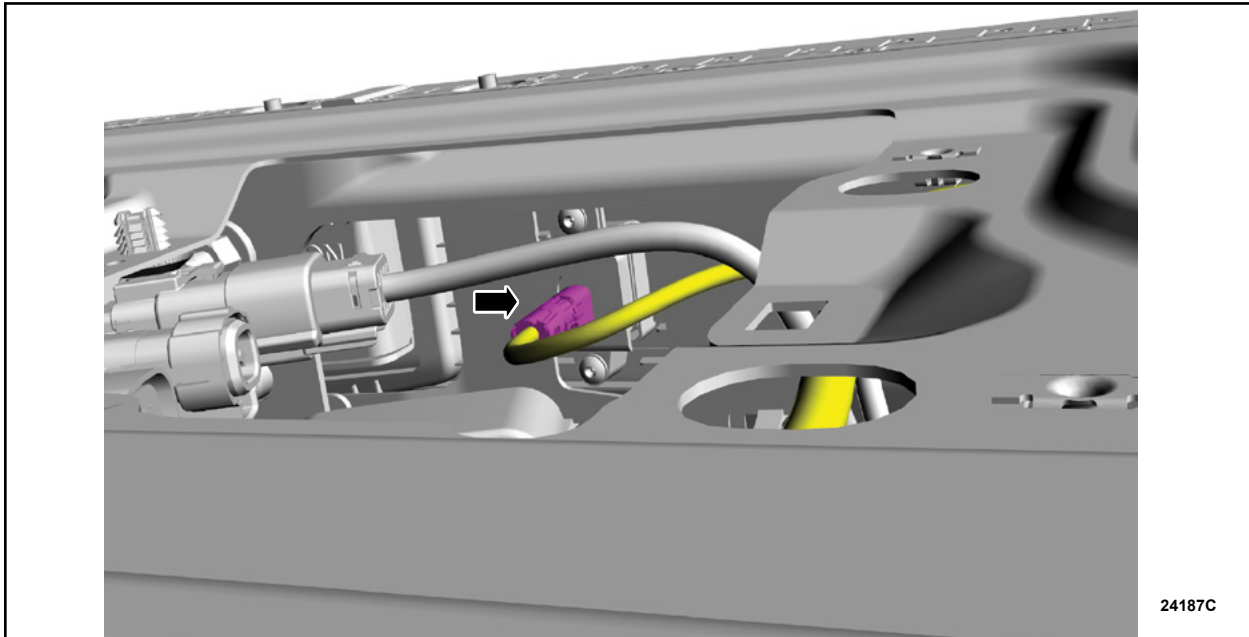

FIGURE 4
4. Within the tailgate access panel on the driver's side, disconnect and position aside the tailgate mounted camera electrical connector. See Figure 4.